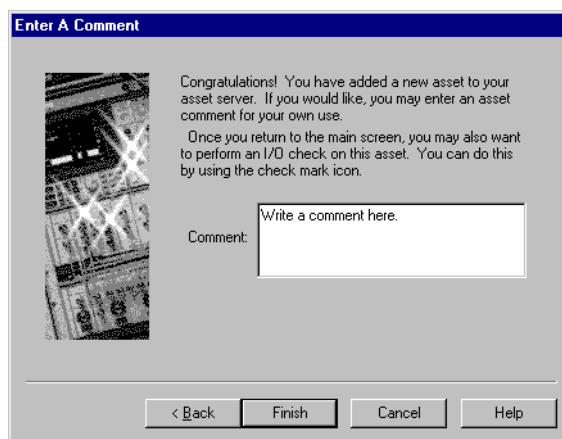

Figure 5-7 Enter Asset Comment
- 12** In the **Enter A Comment** dialog box, you may type a comment that associates itself with the asset you have just configured. See Figure 5-7. Click the **Finish** button.